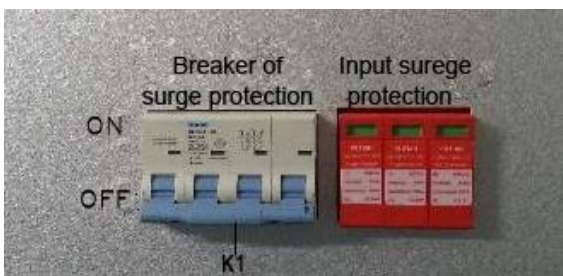

Figure5-1 Step 1
Step 1 Close the surge protection breaker of DC side (K1), as shown in Figure5-1.